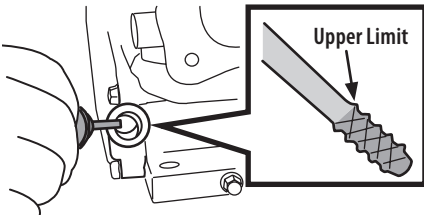

Figure 3
- **Oil Fill Cap on Engine Block:** Keep oil level near or slightly below the upper level mark on the dipstick or to point of overflow on engines without dipstick (Figure 3).
1. Remove the oil fill cap and wipe the dipstick clean (Figure 3).
3. Remove the oil filler cap. If the level is low, slowly add oil to the upper limit on the dipstick (Figure 3).